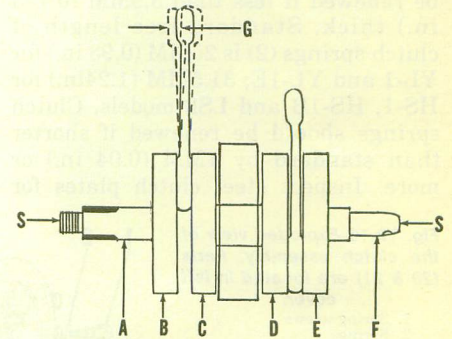

Fig. Y2-15—Refer to text for checking crankshaft for correct assembly or wear.
CONNECTING RODS AND CRANKSHAFT. The crankcase halves must be separated to remove the crankshaft. Connecting rods, crankpins, rod bearings and the center main bearings are removed by pressing the crankshaft apart. The crankshaft should be disassembled ONLY if required tools are available to correctly check and align the reassembled crankshaft. If side shake (G—Fig. Y2-15) at piston pin end of connecting rod end exceeds 2MM (0.08 in.), the connecting rod, crankpin and lower bearing should be renewed. Shake (G) should be 0.8-1.0MM (0.032-0.039 in.). Side clearance of connecting rod between the crankshaft counter weights can be measured with a feeler gage. Side clearance should be 0.1-0.3MM
(0.0039-0.012 in.). With crankshaft supported between lathe centers (S—Fig. Y2-15), maximum eccentricity when measured with dial indicator at points (A,B,C,D,E, & F) should not exceed 0.02MM (0.0008 in.).